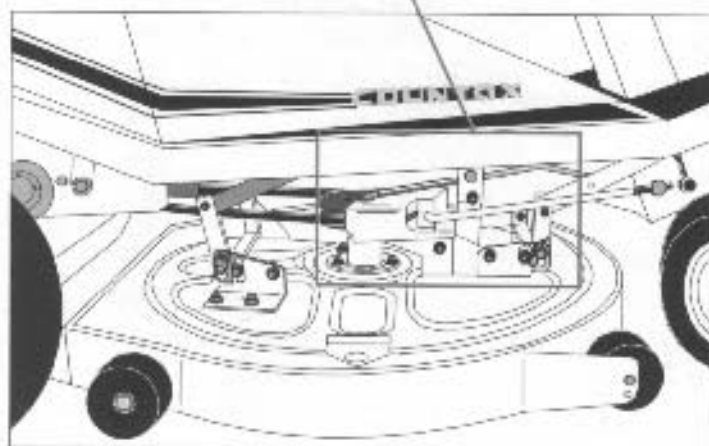

FIG 31
- 2/ Locate the Deck Engage Rod (see fig 31)
- 3/ Slacken off the Locking Collar on the Deck Engage Rod using a 3/16" allen key. (see fig 31)
- 4/ Then using a 9/16" spanner wind the 3/8 unf nut at the end of the Deck Engage Rod forwards to increase the tension on the belt or backwards to decrease tension. (see fig 31)
- 7/ If belt tension is within the parameters, slide the Locking Nut until it is positioned 3mm from the Deck Engage Pivot Trunnion and re-secure using the 3/16 allen key. (see fig 31)
REMOVAL OF CUTTER DECK (fig 31 & 31A)
REPLACEMENT OF CUTTER DRIVE BELT (fig 31 & 31A)